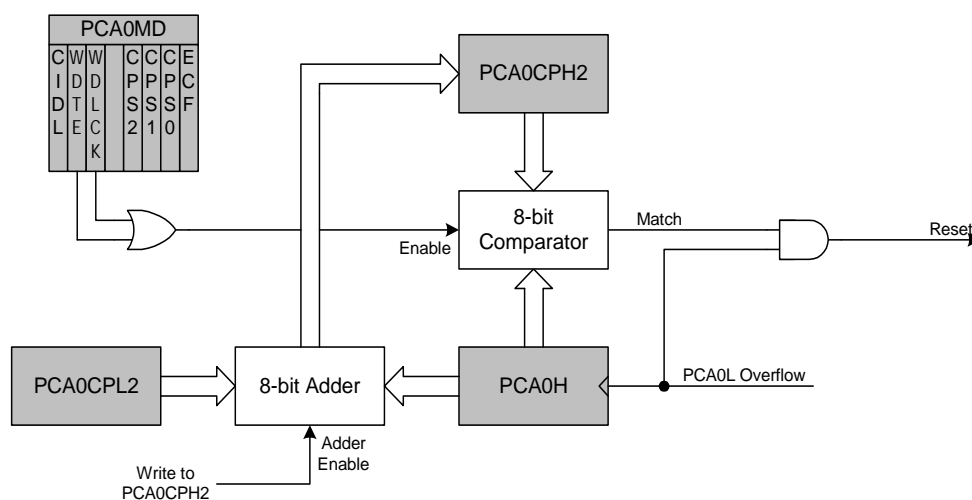

Figure 23.10. PCA Module 2 with Watchdog Timer Enabled
While the WDT is enabled, writes to the CR bit will not change the PCA counter state; the counter will run until the WDT is disabled. The PCA counter run control (CR) will read zero if the WDT is enabled but user software has not enabled the PCA counter. If a match occurs between PCA0CPH2 and PCA0H while the WDT is enabled, a reset will be generated. To prevent a WDT reset, the WDT may be updated with a write of any value to PCA0CPH2. Upon a PCA0CPH2 write, PCA0H plus the offset held in PCA0CPL2 is loaded into PCA0CPH2 (See Figure 23.10).